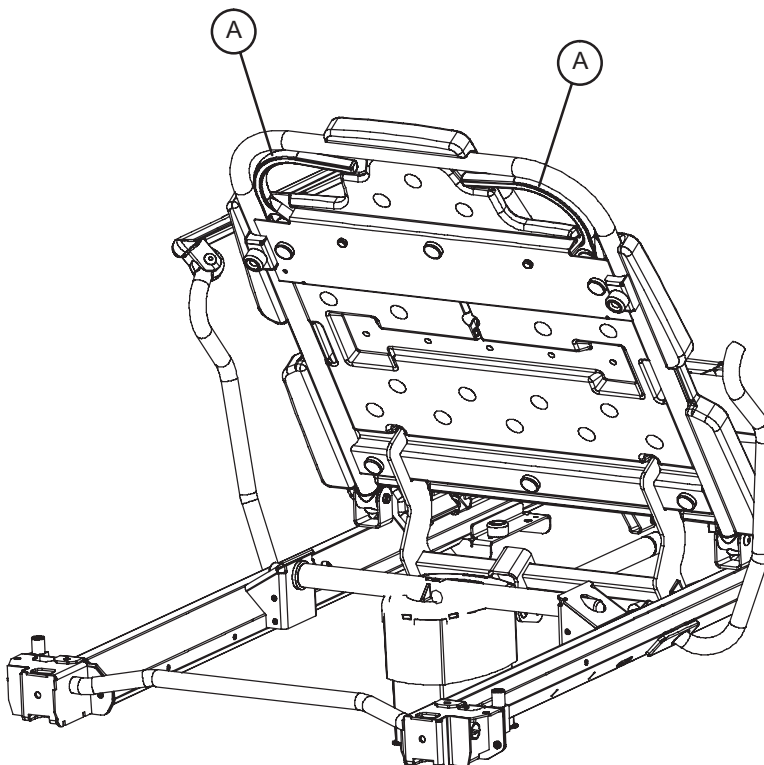

Figure 7 - Pneumatic Fowler
Squeeze either or both of the yellow fowler handles (A) for pneumatic assist in lifting the fowler to the desired height as shown in Figure 7. Remove hand(s) from handle when the desired height is achieved.